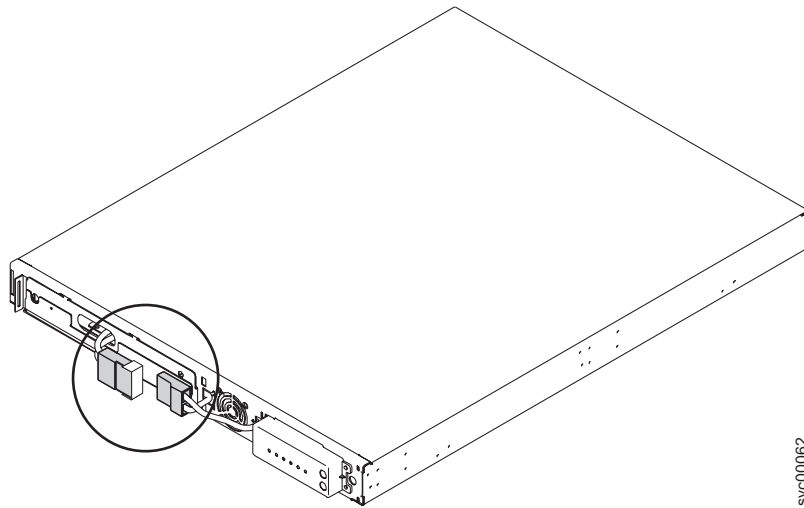

Figure 222. The 2145 UPS-1U internal battery connector with protective tape
3. Disconnect the internal battery connector, circled in Figure 222.